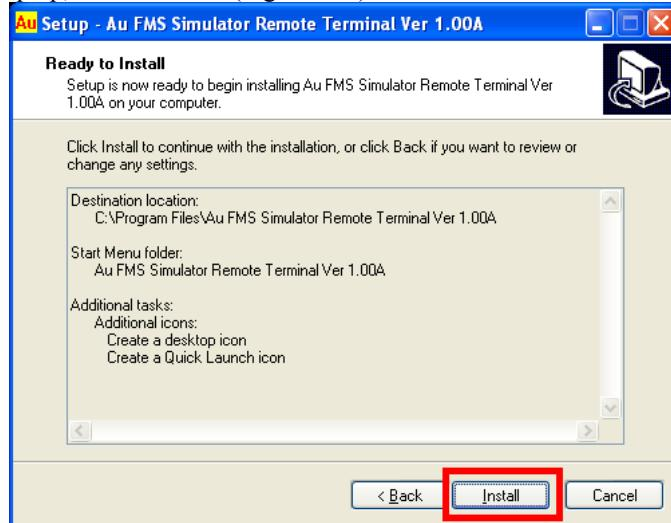

Figure A-7
7. “Ready to Install” window pop up, click “Install” (Figure A-7)